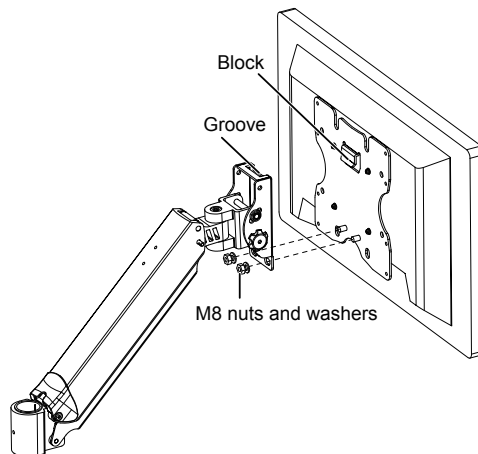

Figure 16 Installing the Monitor
- b. Fix the block on the monitor fixing plate into the groove on the swing arm front and ensure that the block is completely fixed in, as is shown in Figure 16.